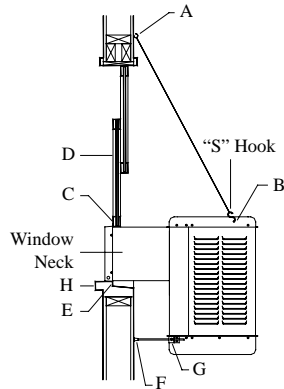

Fig. 2
- **NOTE: If installing unit without the use of the installation kit, omit these directions and those pertaining to Fig. 2.**
- **Screw chain hooks into window facing.** Position the two chain hooks above the neck of the cooler a distance equal to the width of the cooler apart (A-Fig. 2). Hook one hanger chain in each hook and then one "S" hook in the other end of each chain. **NOTE:** Chain hooks supplied with this mounting kit have wood screw threads for wood walls. Concrete, brick walls or concrete blocks require sufficiently strong wing nuts or anchors with mating hooks.
- **Position cooler in window.** Position neck of cooler so that the flange (E-Fig. 2) is snug against edge of sill (H-Fig. 2). With cooler in position, hook the "S" hooks into the holes of the top pan near the back of the cooler (B-Fig. 2).
- **Place window behind retainer strip.** Raise back of cooler so that the window (D-Fig. 2) may be brought down behind top of panel retainer strip (C-Fig. 2).
- **Adjust house legs.** Pull out house legs so that the rubber bumpers rest against house siding (F-Fig. 2). Tighten screw in retaining collar. (G-Fig. 2).